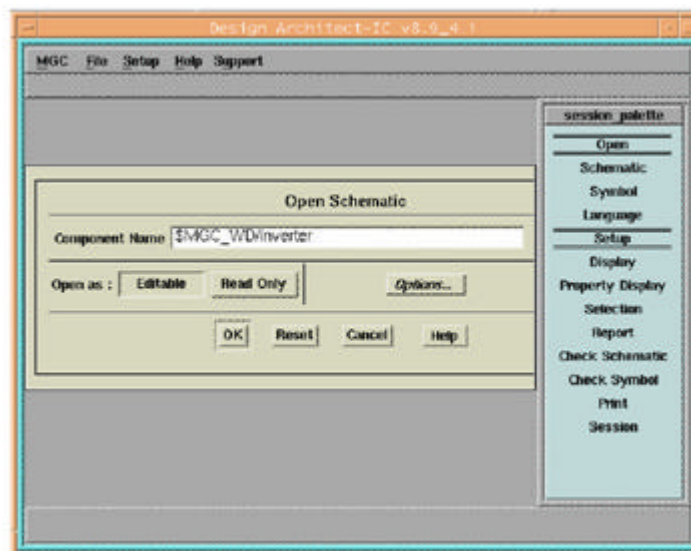

Figure 3-2 Dialog box for open new sheet
3. Double click **da_ic** icon in the 'Tools' window and wait for a couple of seconds, the **Design Architect** window will appear. Select **Schematic** in the **Session Palette** window. A dialogbox pops up as shown in Figure 3-2.